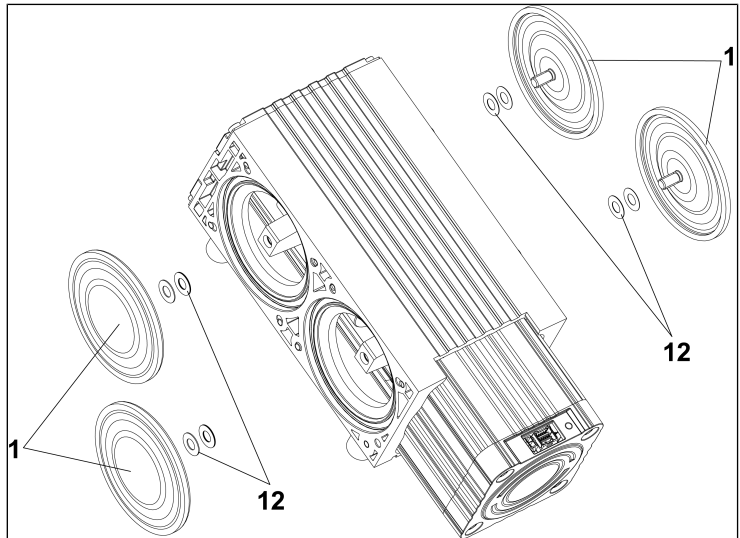

Fig. 10: Diaphragm replacement
1. Unscrew the two diaphragms (1/Fig. 10) counterclockwise by hand.
- i** Make sure that the shims (12/Fig. 10) located between the diaphragm and the connection rod do not fall into the pump housing. To ensure the pneumatic performance of the pump, make sure to reinstall the exact number of shims (12/Fig. 10) as removed.
2. Screw the new diaphragms (1/Fig. 10) into the thread of the connection rod by hand and tighten them finger-tight.
3. Move the diaphragms (1/Fig. 10) to the center position.